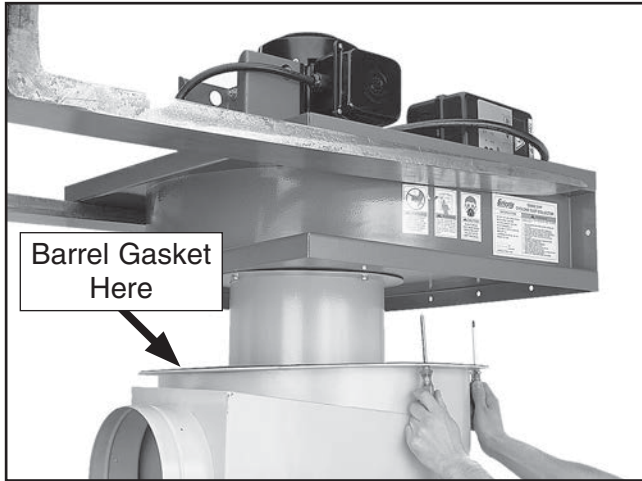

Figure 14. Aligning mounting holes.
16. Using two punches or Phillips screwdrivers, align mounting holes, as shown in **Figure 14**, and lower assembly onto intake barrel.